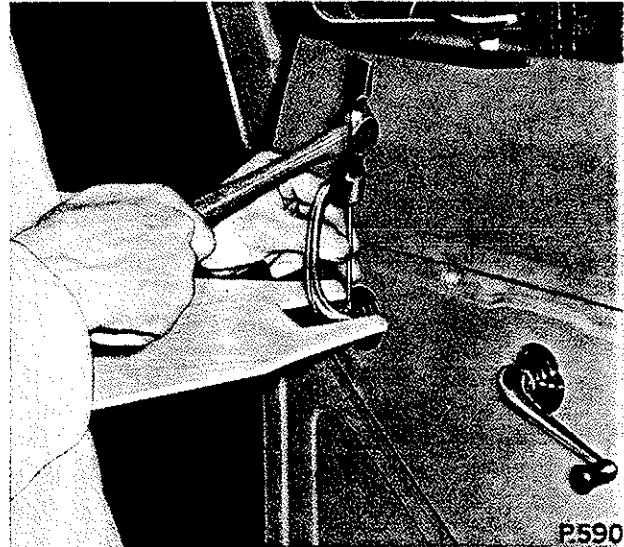

Fig. O.2. Tapping out the interior door handle pin to remove the door handle
- (a) Using a suitable wooden strip that has been cut out to fit over the handle, depress the handle escutcheon and tap out the handle pin using a suitable metal drift (see Fig. O.2).